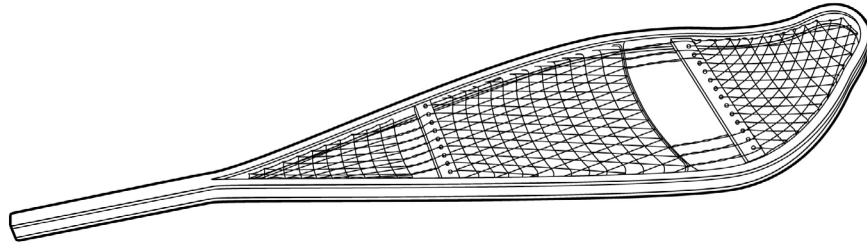

Figure 7. Magnesium Trail Snowshoes.
**Magnesium Trail Snowshoes (Replaced by Assault Snowshoe.)** The Magnesium Trail Snowshoes (Figure 7) are a standard-type snowshoe with ski-type upturned front and sharply tapered rear. The frame is magnesium, laced with plastic-covered steel cable.